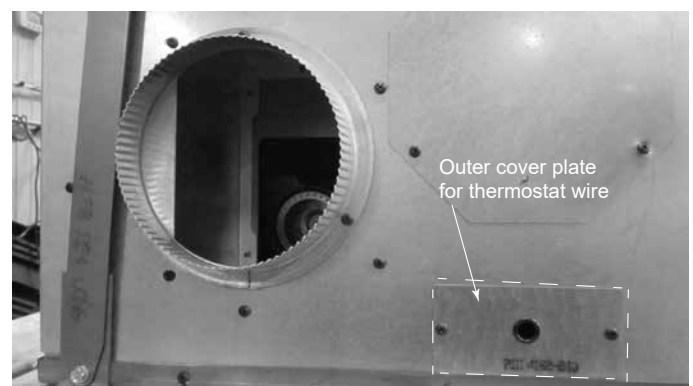
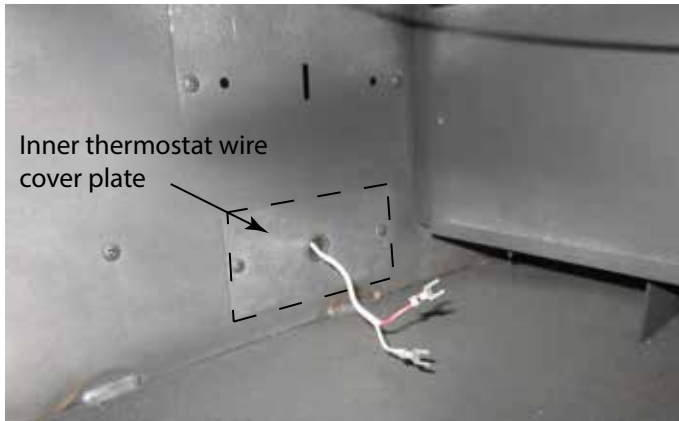

Figure 4.5 Left Side Shown
Figure 4.6
- The thermostat wire will be installed on the opposite side of where the electric comes in at. See Figure 4.5.
- Remove the outer thermostat wire cover plate and insert the end of the wire with the spade ends on it through the hole in the cover plate. See Figure 4.5. Continue inserting the wire into the fireplace and through the hole in the inner cover plate. See Figure 4.6.